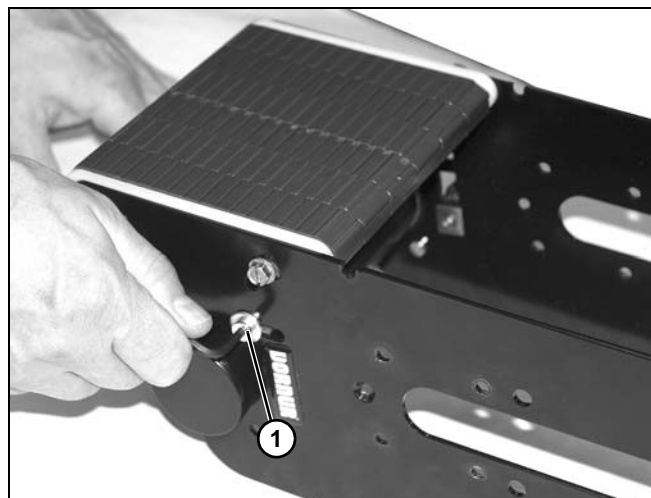

Figure 120
12. Loosen socket head screw (Figure 120, item 1) on tensioning rod on each side of transfer tail.